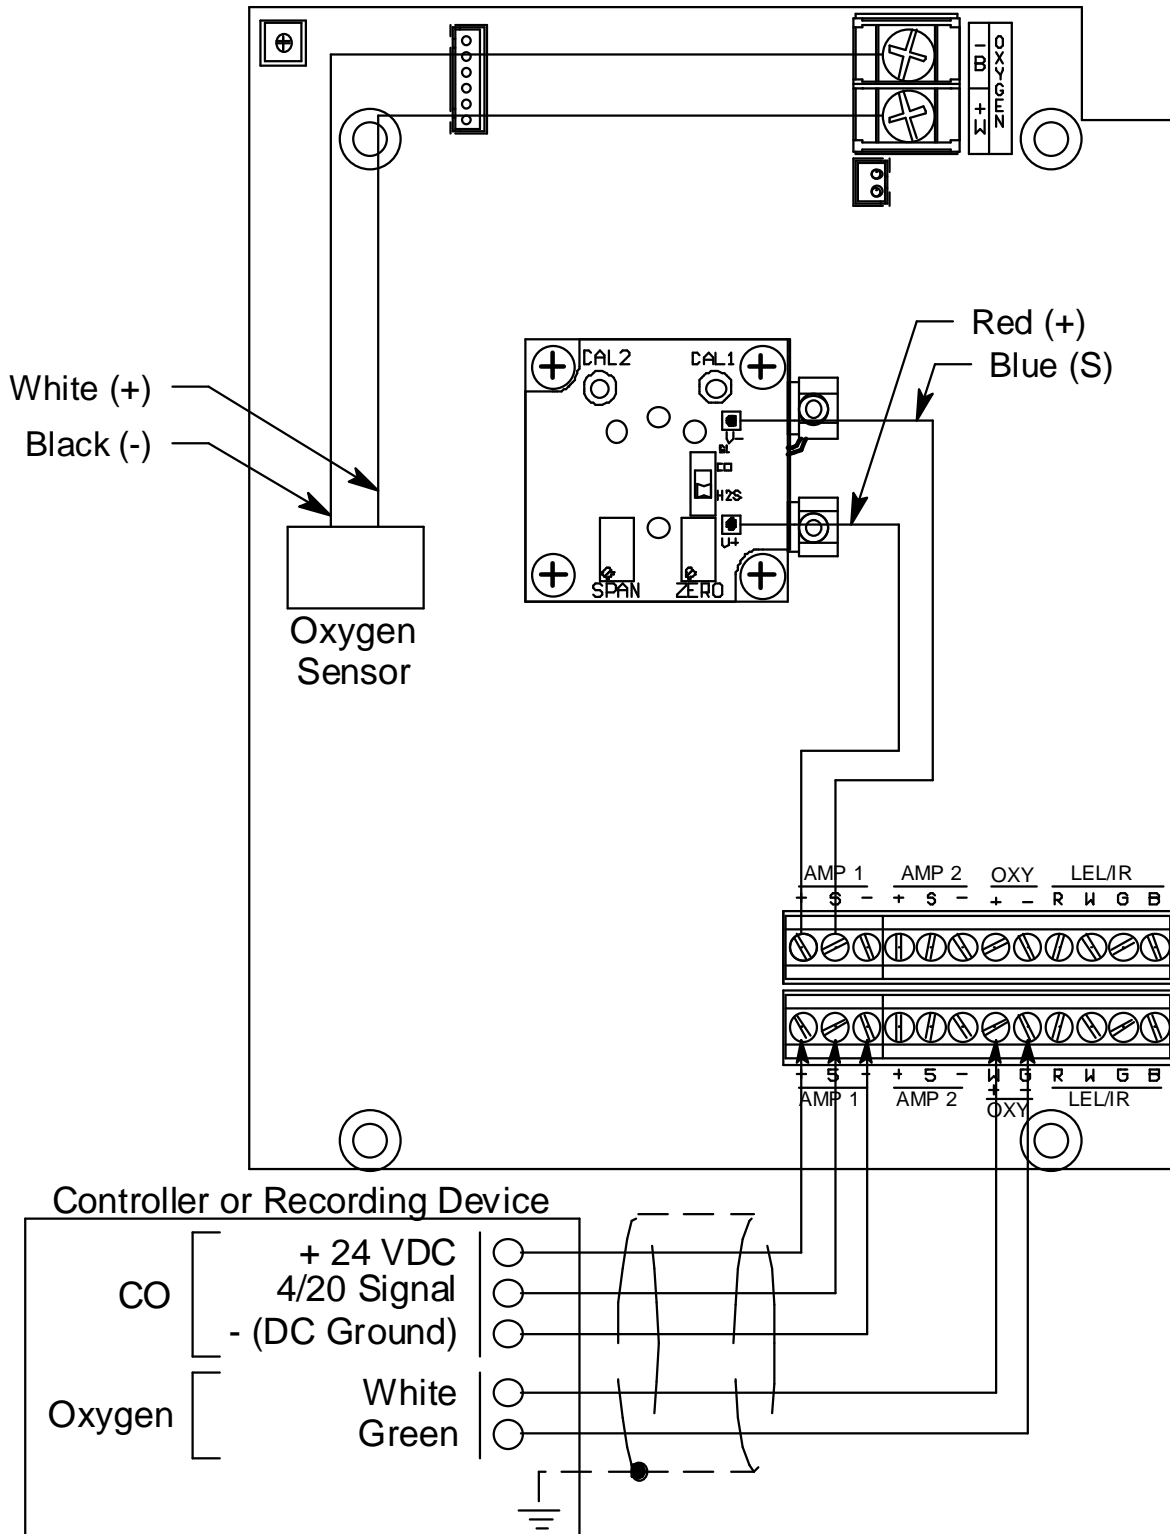

Figure 5: Wiring the Sample-Draw Detector to a Controller
5. Connect the cable to the sample-draw detector’s interconnect terminal strip as shown in Figure 5.
- Connect the wires to the applicable detector/transmitter terminal strip at the controller as shown in Figure 5. Refer to the controller operator's manual and the controller detector head specification sheet for the 35-3001-10 for detector/transmitter terminal strip connections specific to the controller.
8. Guide the wires and lugs of the replacement sensor to the oxygen terminal strip and insert each lug into the appropriate terminal. See Figure 5 on page 14 for wiring connections. Tighten the screws on the terminal strip.